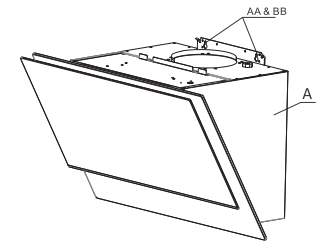

Fig.8
- Hook the hood body (A) onto the screws (AA and BB) mounted onto the wall and securely tighten the screws (AA and BB) to secure the hood body (A) on the wall. Peel off the backing and stick sponge strip to the front side of the fan housing as shown (Fig.8)